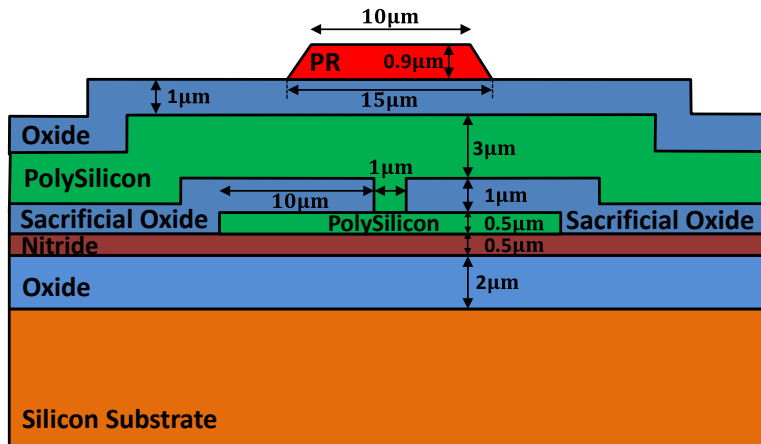

Fig. PS2.1-2
- (b) Suppose a $1\mu\text{m}$ oxide hard mask layer is deposited atop the polysilicon film before photoresist deposition and patterning, as shown in Fig. PS2.1-2. You first dry etch the oxide in an RIE system with etch rate and selectivity given in Table 2.1-3. You follow with an RIE etch as in Table 2.1-1 to define the polysilicon structure using the patterned oxide layer as a hard mask. How long should you dry etch the oxide layer (including a 20% overetch)? Draw the wafer cross-sections immediately after the oxide etch step and after the polysilicon etch step. (To make sure you are not affected by the results you calculated in part (b), assume an 8 min polysilicon etch after etching the oxide.)